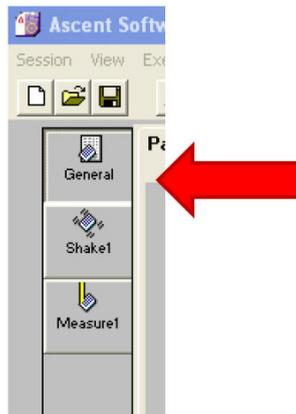

Figure 26. Open the 'General' window
10. Click on 'General' (Figure 26).